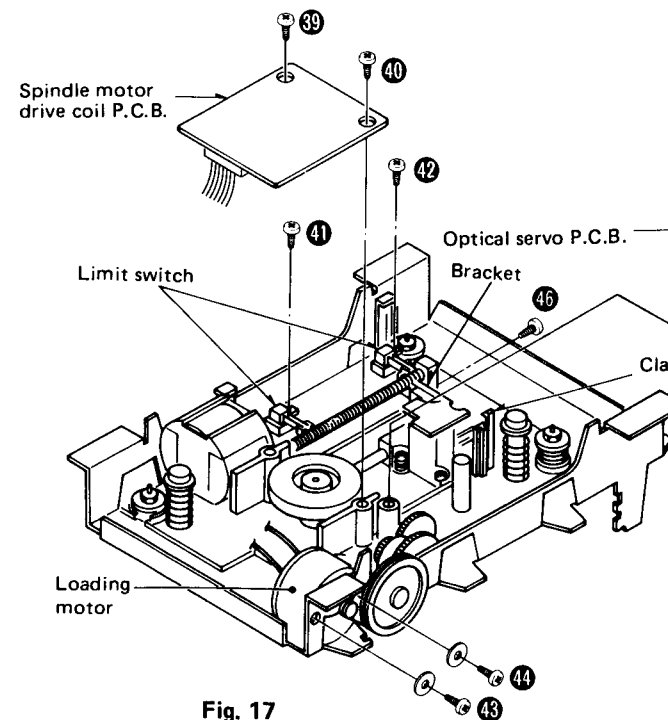

Fig. 17
2. Turn over the traverse unit and remove the optical servo P.C.B. setscrew [Fig. 17 : 38].
4. Remove the 2 setscrews [Fig. 17 : 39, 40] of spindle motor drive coil P.C.B.
2. Remove the 2 setscrews [Fig. 17 : 41, 42] of limit switch, and unsolder the limit switch.
3. Remove the 2 setscrews [Fig. 17 : 43, 44] of loading motor, and unsolder the motor leads.
4. Remove the bracket setscrew [Fig. 17 : 46] of pickup to remove the bracket.